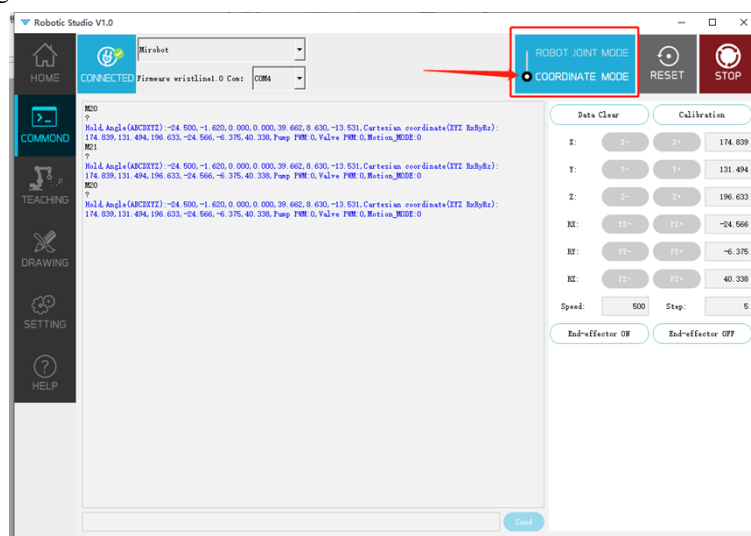

Figure 2.22 Cartesian spatial motion mode selection
(2) Select Cartesian space motion mode at the control mode selection in Mirobot Studio, as shown in Figure 2.22.